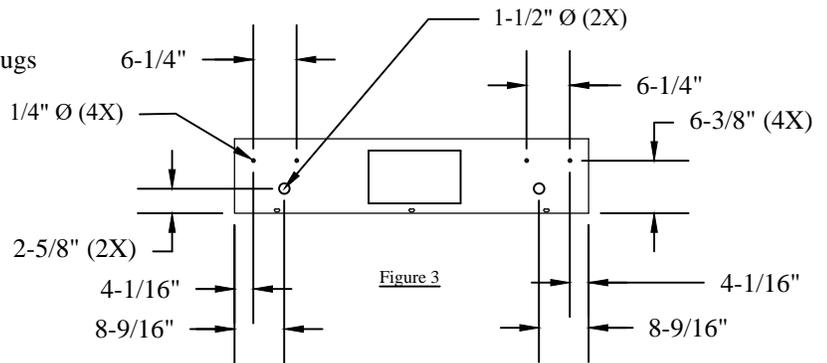

Figure 3
- Step 4. Drill two 1-1/2" and four 1/4" holes at locations indicated (Figure 3).